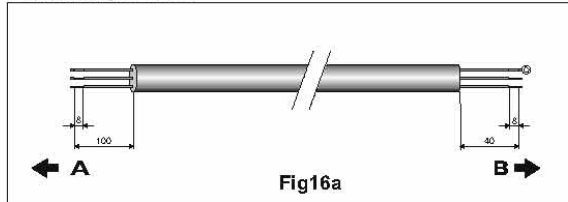

Fig16a
3. Prepare the cable ends for the power input and for the cables between outdoor and indoor units as shown in figure 16a and 16b respectively.